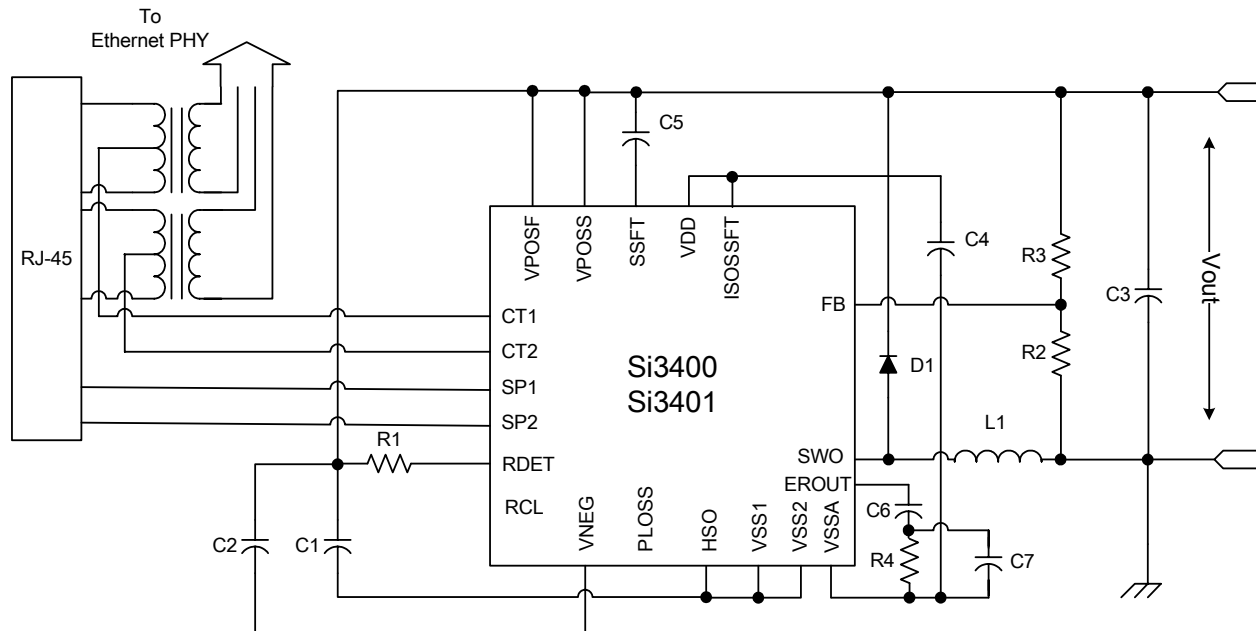

Figure 1. Schematic—Class 0 with Non-Isolated 5 V Output*
6. Applies to non-isolated applications only (VOUT on schematic in Figure 1).
The application determines the converter topology. An isolated application will require a flyback transformer-based switching topology while a non-isolated application can use an inductor-based buck converter topology. In the isolated case, dc isolation is achieved through a transformer in the forward path and a voltage reference plus opto-isolator in the feedback path. The application circuit shown in Figure 2 is an example of such a topology. The non-isolated application in Figure 1 makes use of a single inductor as the energy conversion element, and the feedback signal is directly supplied into the internal error amplifier. As can be seen from the application circuits, the isolated topology has an increased number of components, thus increasing the bill of materials (BOM) and system footprint.